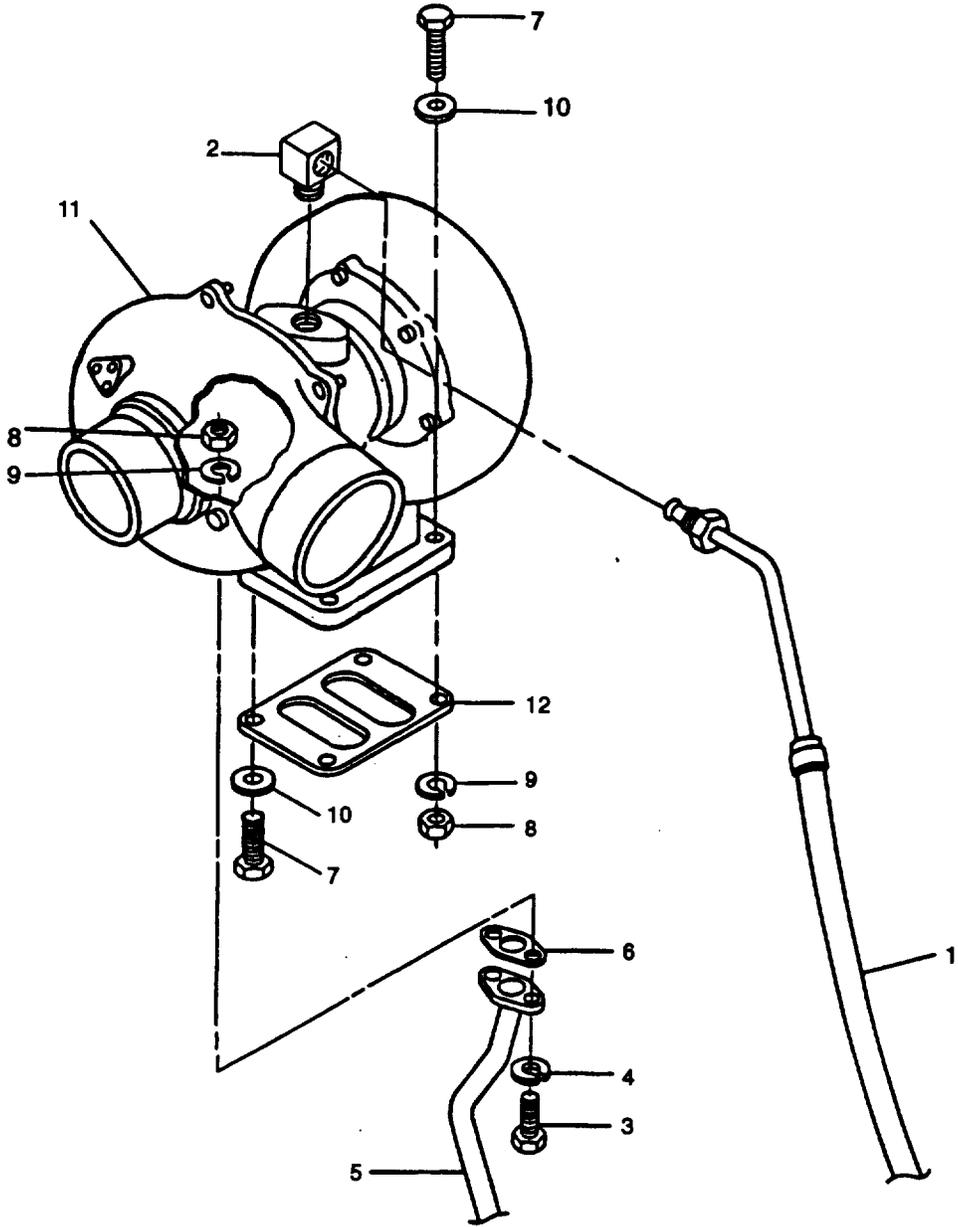

FIGURE 3-24. Turbocharger
- b. Remove air intake line and exhaust line from turbocharger (11, FIGURE 3-24), refer to end item maintenance manual.
- d. Disconnect oil inlet line (1) from fitting (2) on top of turbocharger (11).
- d. Position new stainless steel gasket (12, FIGURE 3-24) and turbocharger (11) on exhaust manifold and secure with four capscrews (7), flatwashers (10), nuts (8) and new lockwashers (9). Tighten capscrews to 35 ft-lbs (47 Nm).
- e. Position new gasket (6) and oil drain line (5) on turbocharger and secure with two capscrews (3) and new lockwashers (4). Tighten screws to 20 ft-lbs (27 Nm).
- f. Connect oil inlet line (1) to fitting (2) on top of turbocharger.
- (1) Place throttle system so engine cannot start.
- (2) Crank engine using starter until oil reaches turbocharger.